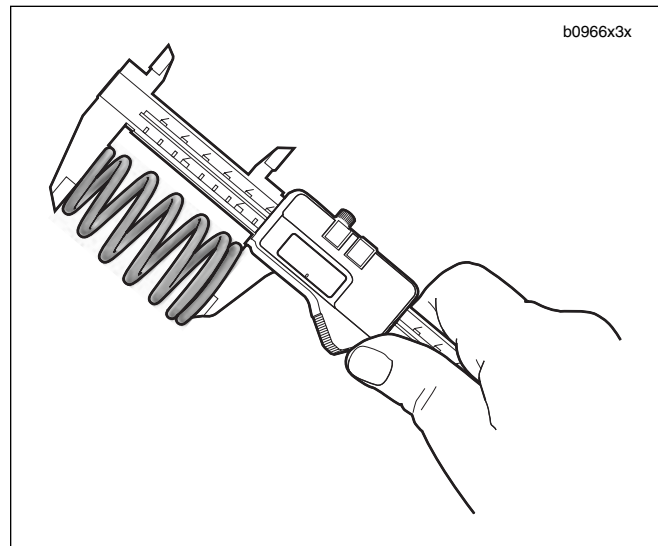

Figure 3-69. Checking Spring Free Length
2. See Figure 3-69. Check free length and compression force of each spring. Compare with 3.1 SPECIFICATIONS. If spring length is shorter than specification or if spring compression force is below specification, replace spring.